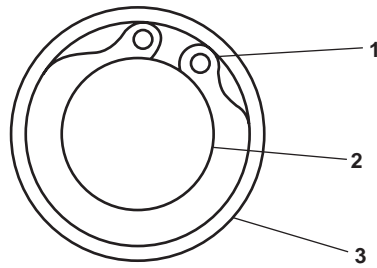

Figure 1. End View Of Cylinder
1. Remove the snap ring (figure 1, item 1) that holds the rod (figure 1, item 2) in the cylinder (figure 1, item 3). Discard the snap ring.
2. Position the rod end of the cylinder (figure 1, item 3) over a suitable drain pan to catch any hydraulic fluid lost during removal of the rod (figure 1, item 2).
3. Using two crewmembers, pull the rod (figure 1, item 2) out of the cylinder (figure 1, item 3). One crewmember must hold the cylinder while the other removes the rod.